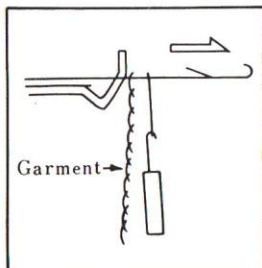

Fig. 46
- 6) Raise up all needles to position "E" and bring the stitches and loops behind latches of the needles. (See Fig.46)